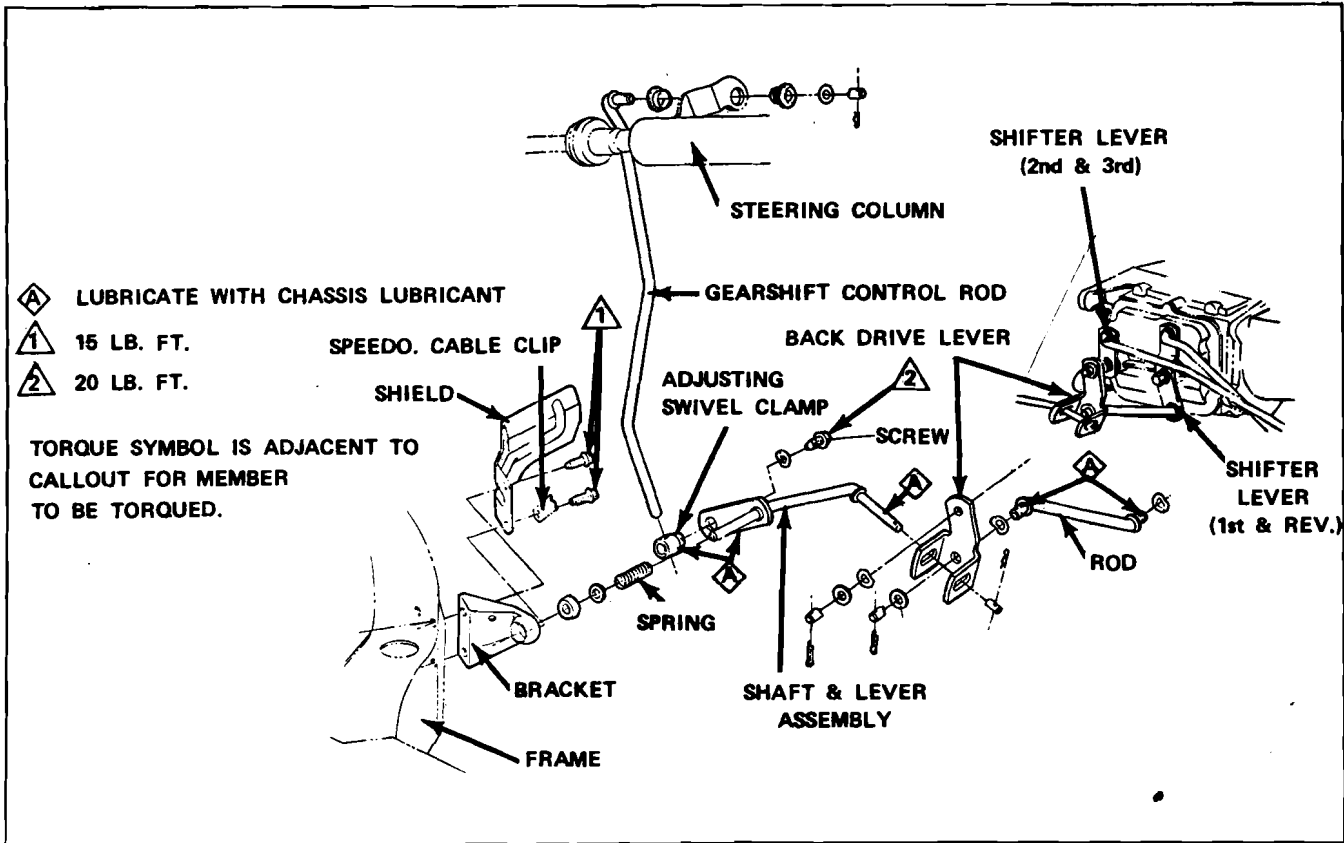

Fig. 7B-5A Tempest Back Drive Linkage
case (Fig. 7B-14). Remove countergear and two (2) tanged thrust washers.